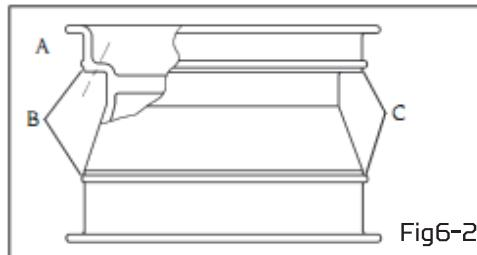

Fig6-2
- The cross-section shaft of some rims is the smooth structure as Fig6-2. The C at rim is very deep. You will find B is higher than A. When you break the bead of this type of tire, you must press the bead which must be lower than B position. When mount the tire, the bead opposite to the tool head must over B point. At this moment, the bead can be led into the groove at the middle of the rim.